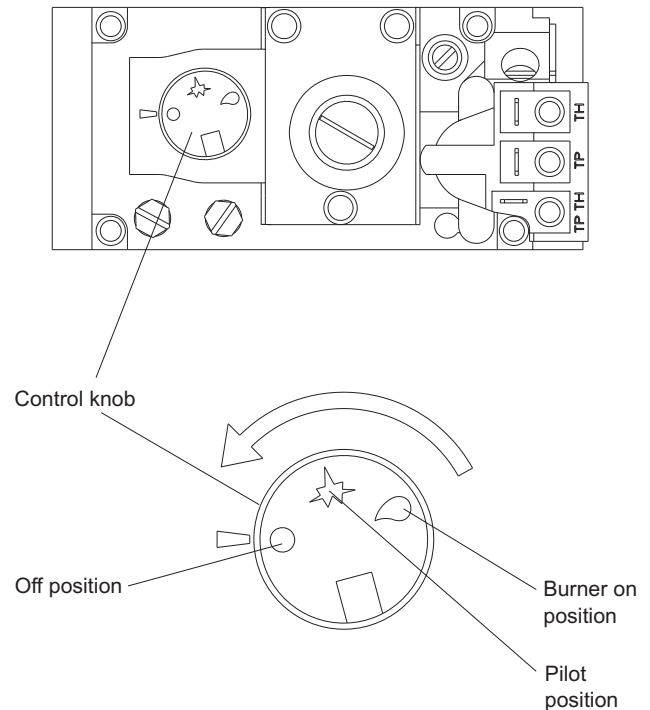

Figure 1
Situated at left side of MFC, the control knob is set correctly when appropriate symbol is alongside position indicator. (See Figure 1)
- Push control knob in and turn to pilot position. (See Figure 1)
- Turn control knob to BURNER ON position (Figure 1) and check burner lights.
Return control knob to pilot position (Figure 1). This will extinguish main burner whilst leaving pilot lit.
Push control knob in and turn to OFF position. (Figure 1)
When work is completed, return control knob to pilot position (See Figure 1) leaving pilot lit if required.